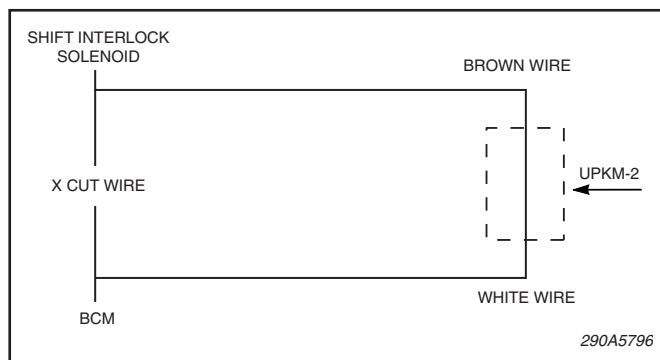

Figure 1.
h. BROWN lead of the UPKM-3, to the shift-interlock solenoid. (See figure 1.)